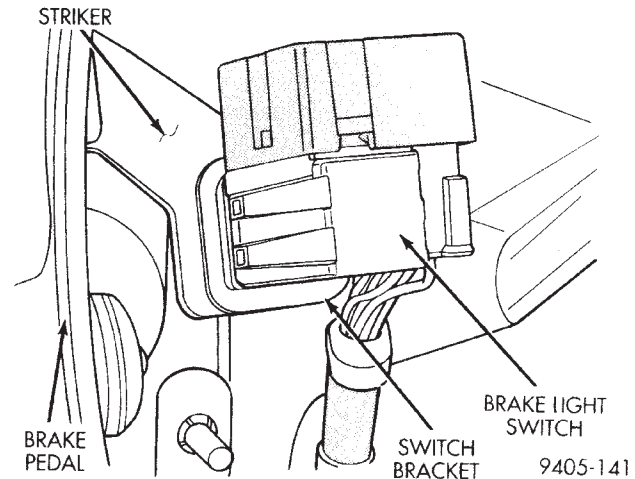

Fig. 148 Stop Lamp Switch
(1) Depress and hold the brake pedal while rotating stop lamp switch (Fig. 148) in a counter-clockwise direction approximately 30 degrees.
(2) Pull the switch rearward and remove from its mounting bracket.
(3) Disconnect wiring harness connector from stop lamp switch.
CAUTION: Do not use excessive force when pulling back on brake pedal to adjust the stop lamp switch. If too much force is used, damage to the stop lamp switch or striker (Fig. 148) can result.